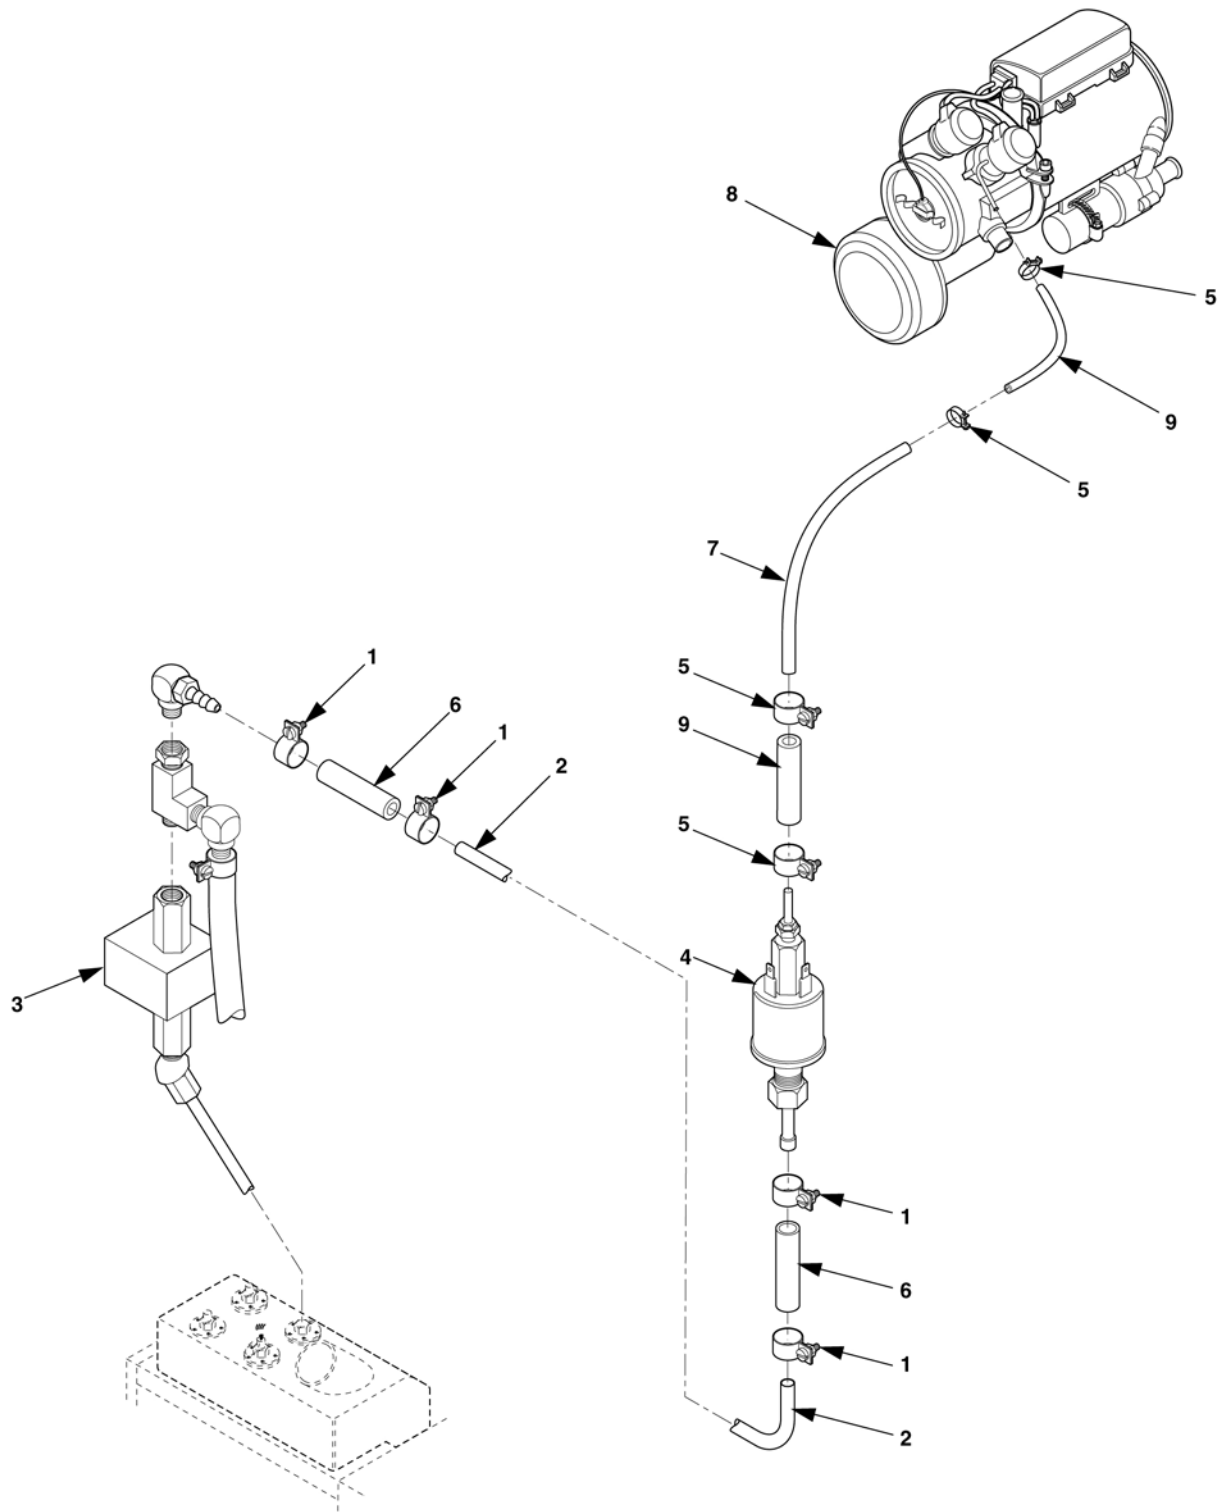

Figure 4-29. Fuel Line Maintenance.
1. Loosen screw clamps (1), Figure 4-29, to remove butt splice (6), and fuel line (2) between primary fuel pump (3), and fuel pump (4). Drain any fuel from line into a suitable container.
2. Loosen screw clamps (5) to remove butt splices (9) and fuel line (7) between fuel pump (4) and heater (8).